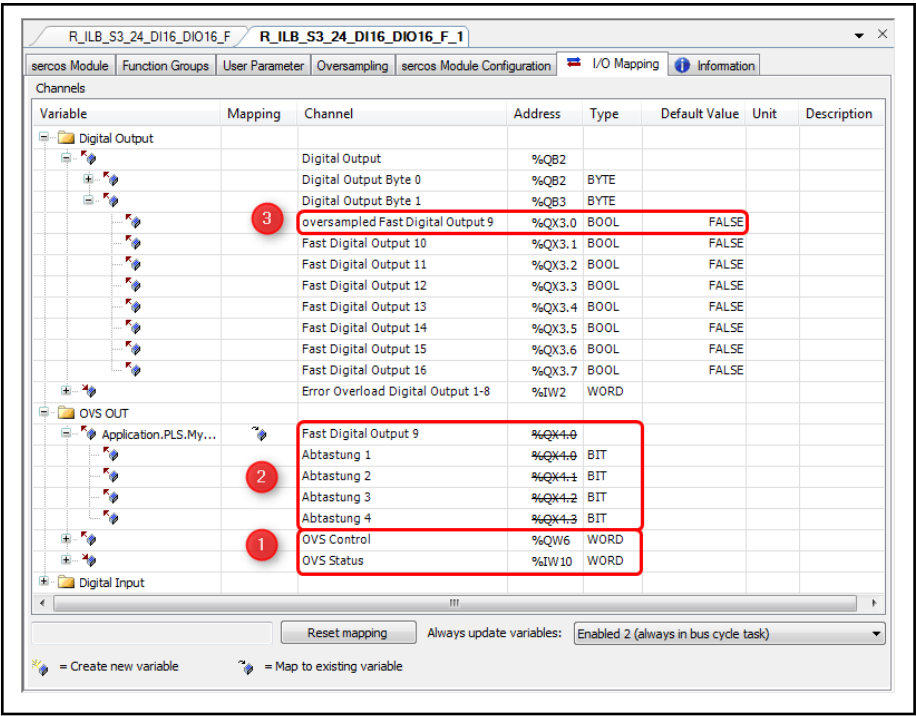

Fig. 9-30: E/A image with channels for oversampling
- **Control/Status:** If the checkbox is selected, the control and status word are also transferred. The corresponding I/O channels are added to the dialog "I/O Mapping" (see ① in fig. 9-30 "E/A image with channels for oversampling" on page 284).